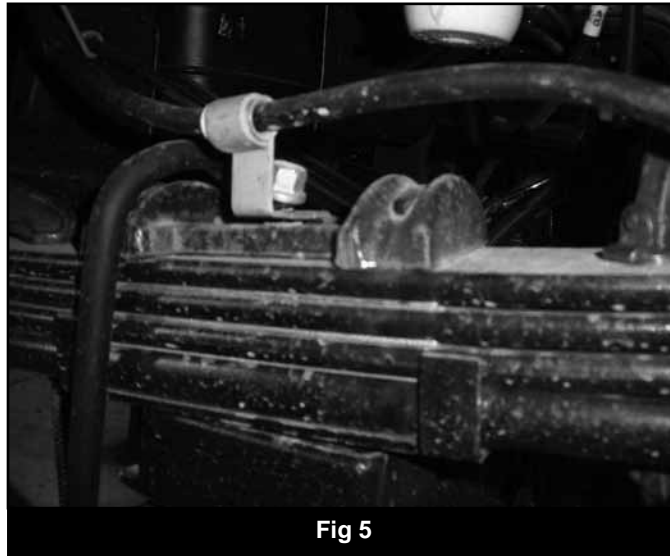

Fig 5
13. Reattach the parking brake cable bracket to the driver's side center pin with the original nut. If more parking brake cable slack is needed, remove the cable from the rear-most retaining bracket on the frame. (Fig 5)